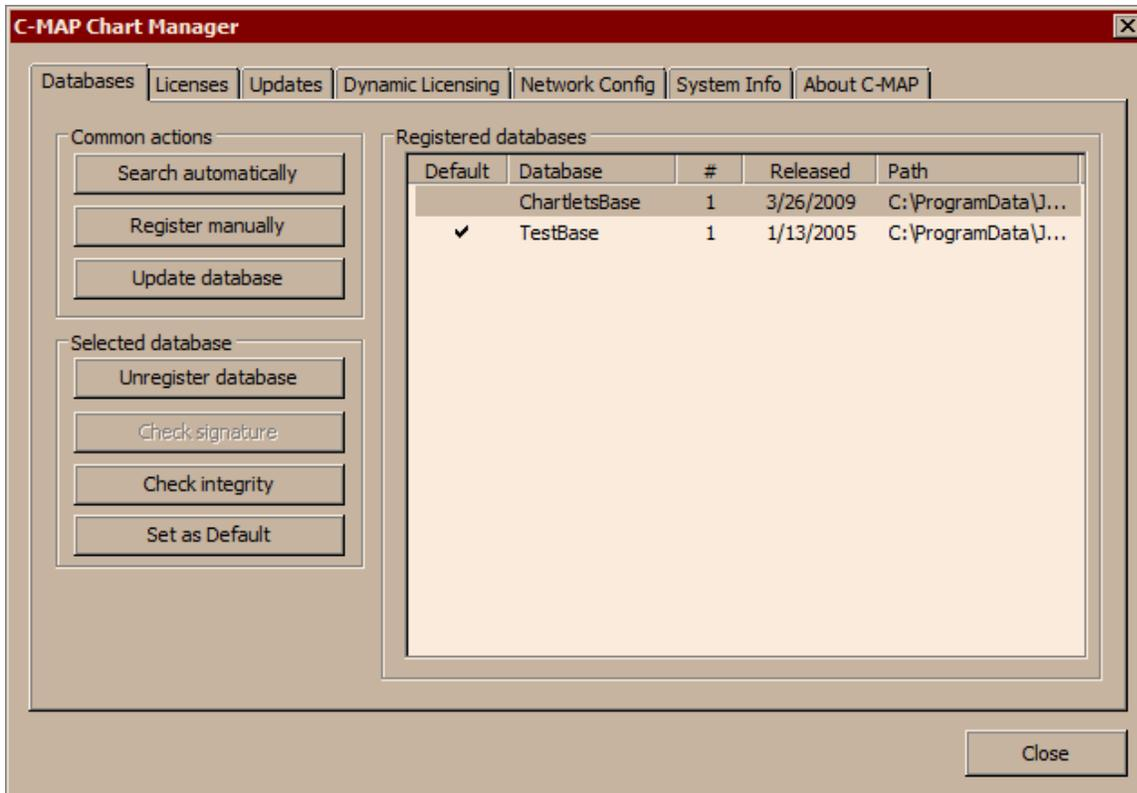

Figure 21. C-MAP "Databases" display panel
When the C-MAP Chart Manager is initially launched, the user will be presented with the databases display panel as shown in Figure 21. Any databases that are already registered on the computer will be listed in this panel.
- Lastly, click the "Import" button to import the charts. This can take a couple of minutes to a couple hours depending on how many charts are being converted. Once this is finished the charts will be able to be used just like any other C-MAP database. This database will show up in the "Chart Manager" shown in Figure 21.